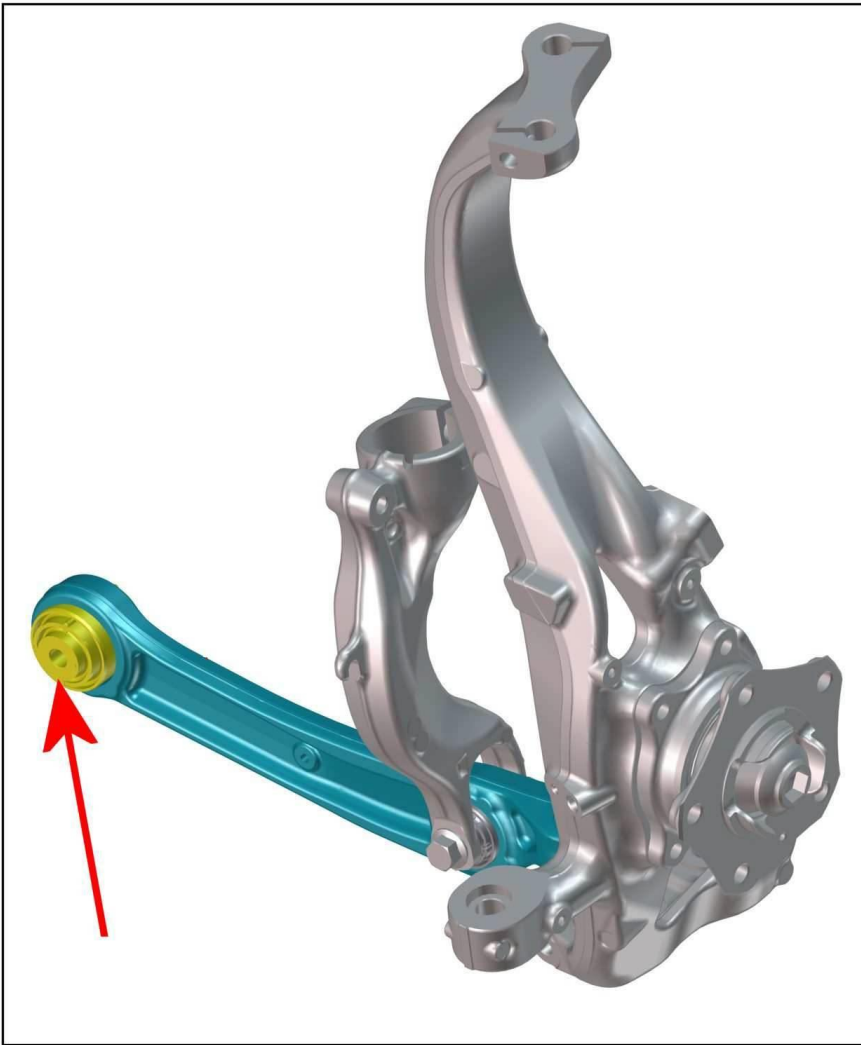

Figure 1
- If so then replace both front lower inner control arm bushes (Figure 1)